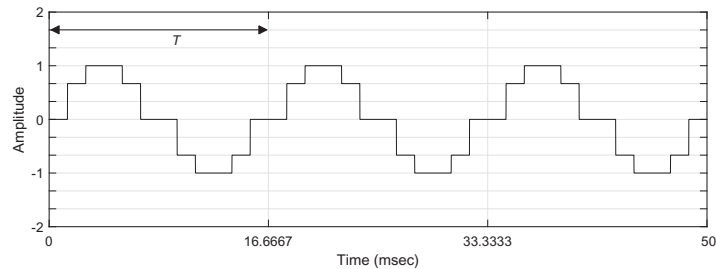

Figure 1.18 The square wave approximation of the sinusoidal wave in Exercise 1.13.
1.13 Figure 1.18 shows the square wave approximation of the sinusoidal wave in an inverter. Obtain the RMS value of this square waveform.